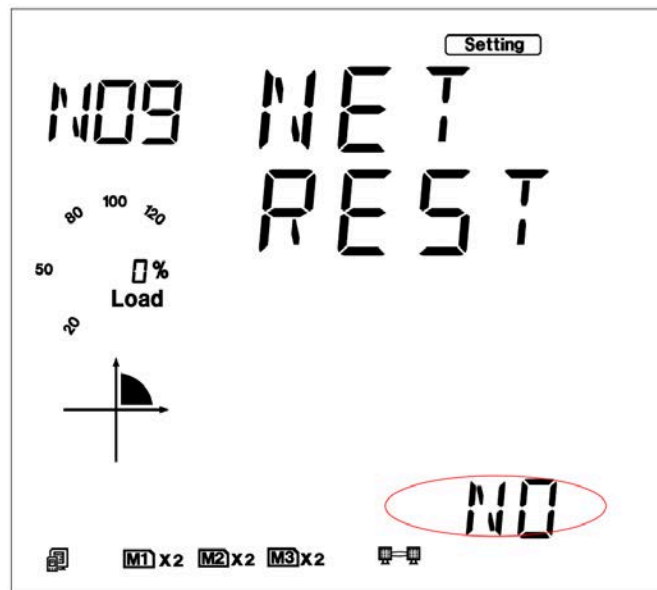

Fig 5-37
11. Set resetting mode in the ninth setting page. Select "RESET" to reset the module. Selecting "NO" will not reset the module. Selecting "DEFAULT" will load the module with default settings and reset module. Press the "V/A" key to go to the setting page and the parameter pointed out in Fig 5-37 will flash. Press the "P" or "E" key to select the configuration mode. Press the "V/A" key to accept.